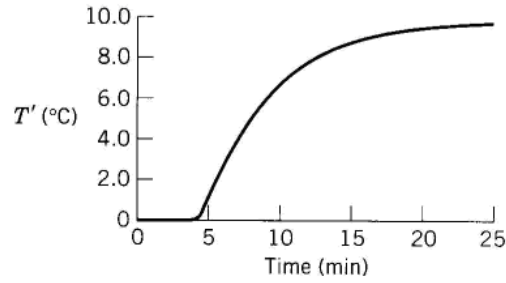

Figure Q5
- Data from a unit step test in Q' on the complete system are shown in Figure Q5. Using a method of your choice, calculate the time constants of this process from the step response.